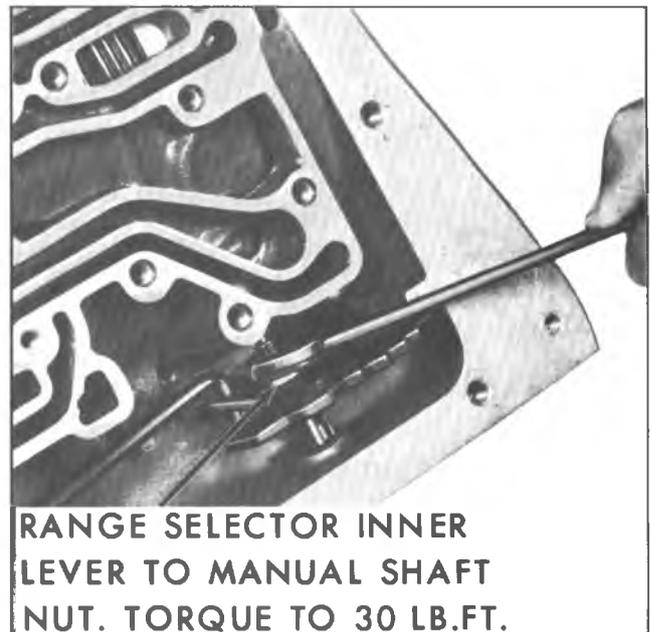

Fig. 19M--Loosening Nut Holding Range Selector Inner Lever to Manual Shaft
9. Loosen nut holding range selector inner lever to manual shaft (fig. 19M).